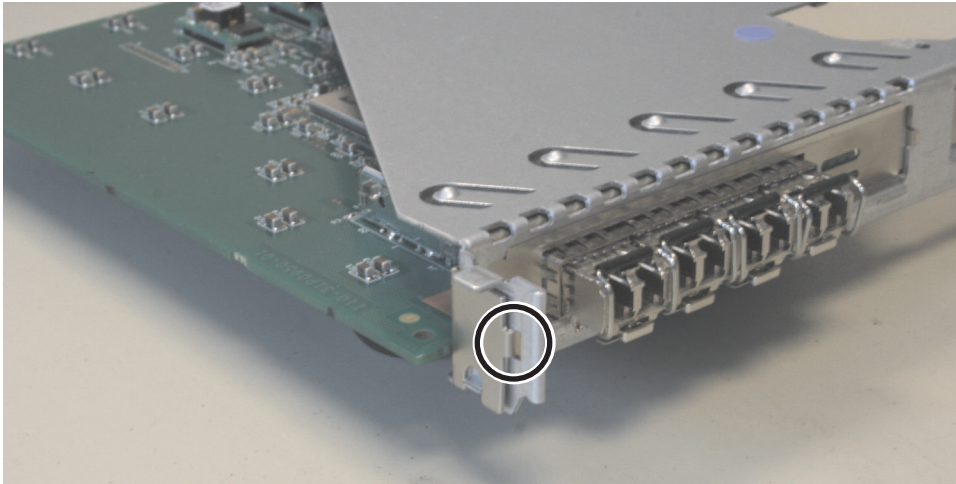

Figure 170. SAN Volume Controller 2145-8A4 riser-card assembly
5. Grasp the riser-card assembly at the front and rear edges and lift to remove it from the node. Place the riser-card assembly shown in Figure 170 on a flat, static-protective surface.